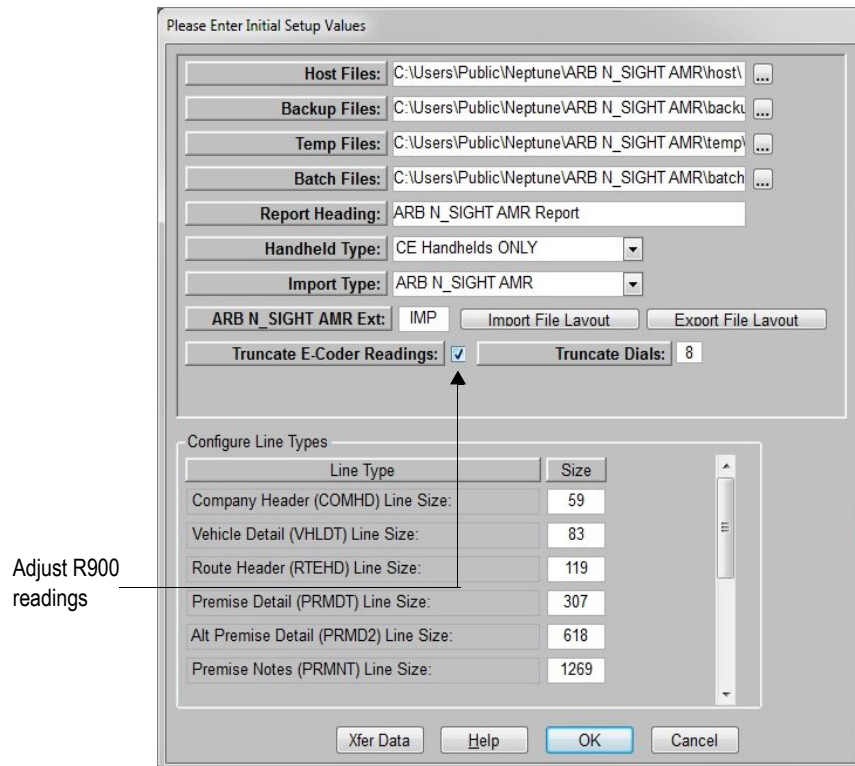

Figure A.1 Initial Setup Values Dialog
- 1 When you start ARB N_SIGHT AMR for the first time, the Enter Initial Setup Values dialog, as pictured in Figure A.1 on page Appendix A-13, appears asking you for the initial setup values.